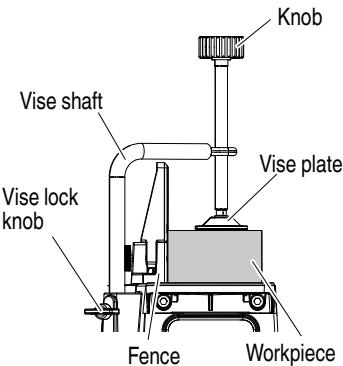

Fig. 30
- (1) The vise assembly can be mounted on the base.
- (2) Turn the upper knob and securely fix the workpiece in position (Fig. 30).